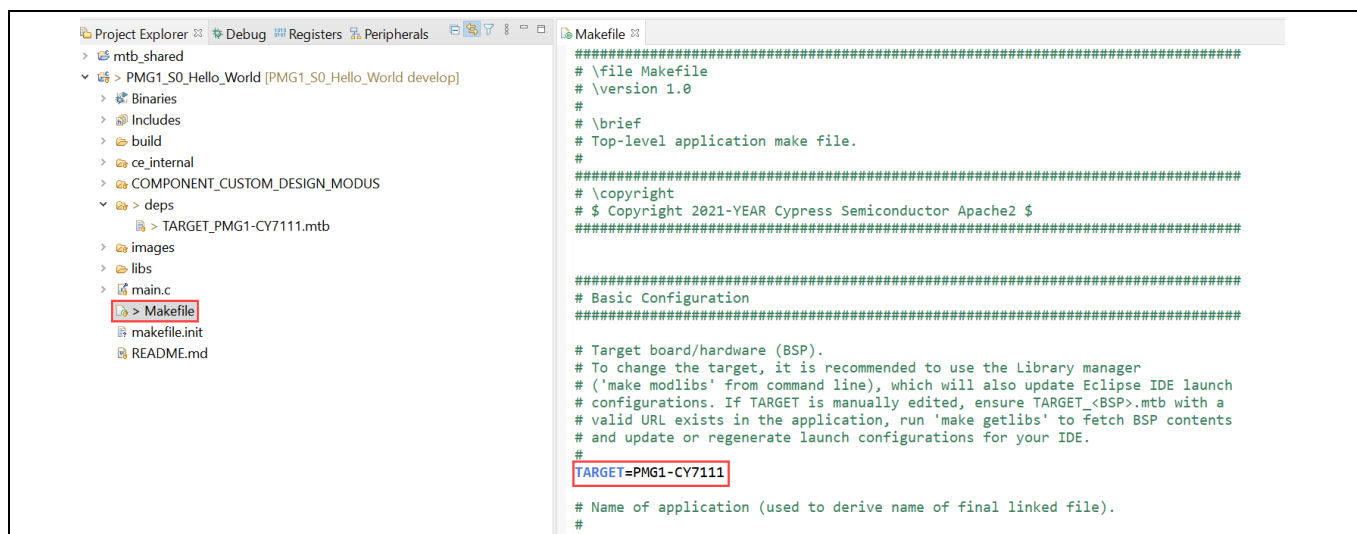

Figure 30 Edit the target name
3. In the Makefile, change the target name to that of the new BSP selected in previous step. See Figure 30.